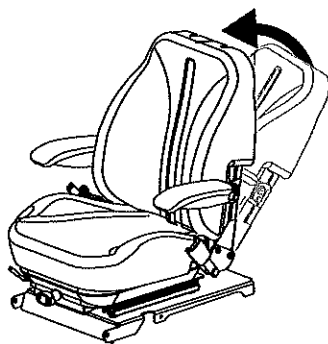

Figure 10
3. Pivot seat forward into operating position. See Figure 10.